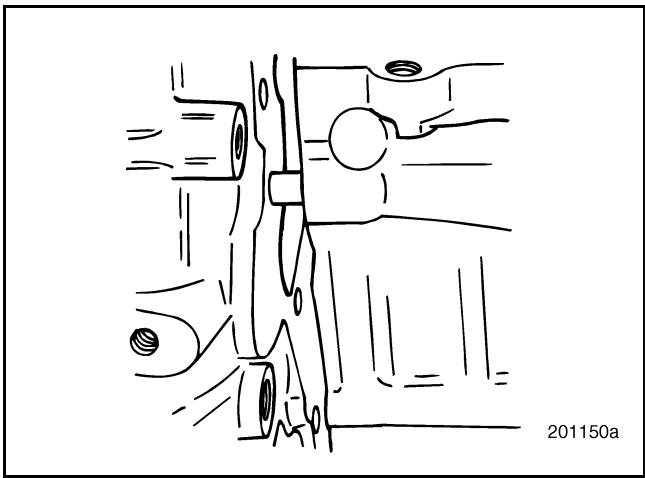

Figure 339 — Positioning Flywheel Housing
5. Align the flywheel housing on the dowels and position it flush against the cylinder block surface. Refer to Figure 339.